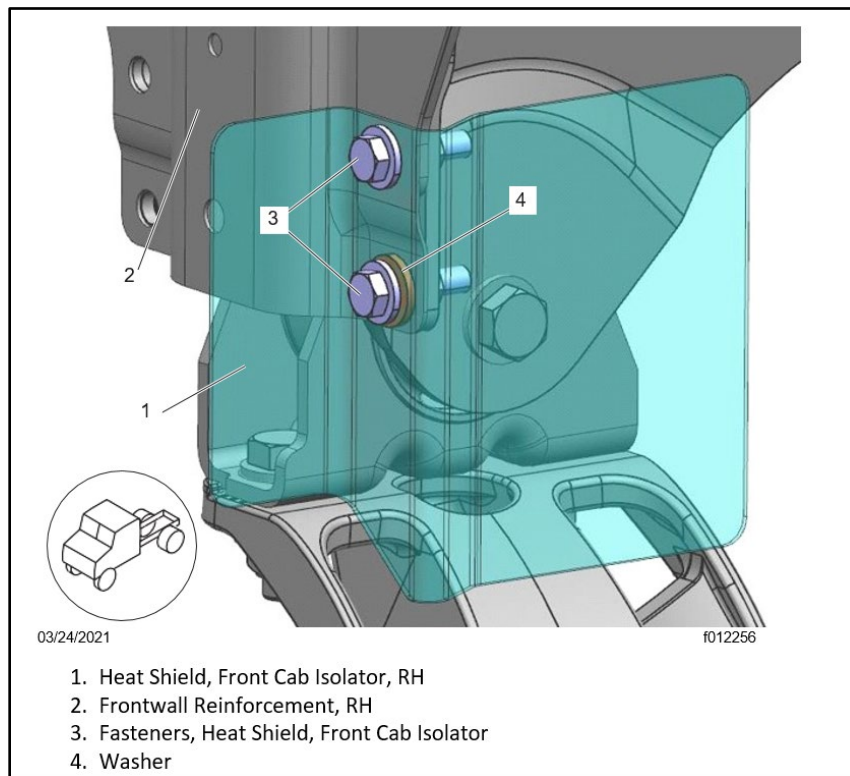

Fig. 1, Cab Mount Heat Shield Installation, RH
4. Position the heat shield (18-73852-000) on the RH side frontwall as shown in Fig. 1.
5. Install the two fasteners that attach the heat shield to the front RH side frontwall, along with a washer on the lower fastener between the heat shield and the reinforcement. See Fig. 1. Tighten the fasteners 34 lbf.ft (46 N.m).